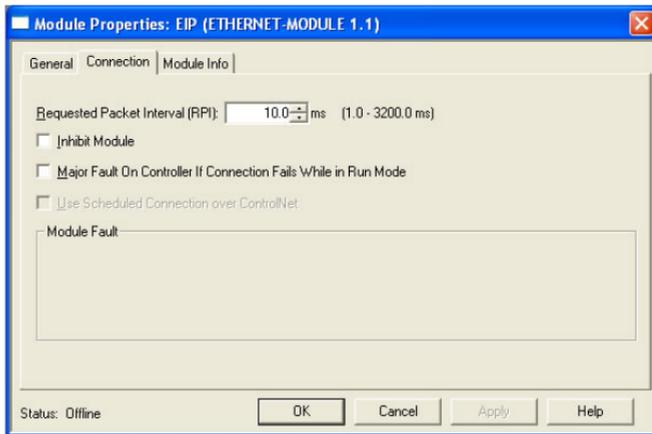

Figure 79: Module Properties Connection Tab
- 5) You should now see the new module (named “ETHERNET-MODULE FR_A7N_ETH”) in the 1756-ENET/B branch under the I/O Configuration in the controller organizer view. Right click on this new module, choose “Properties”, and select the Connection tab. Refer to Figure 79.